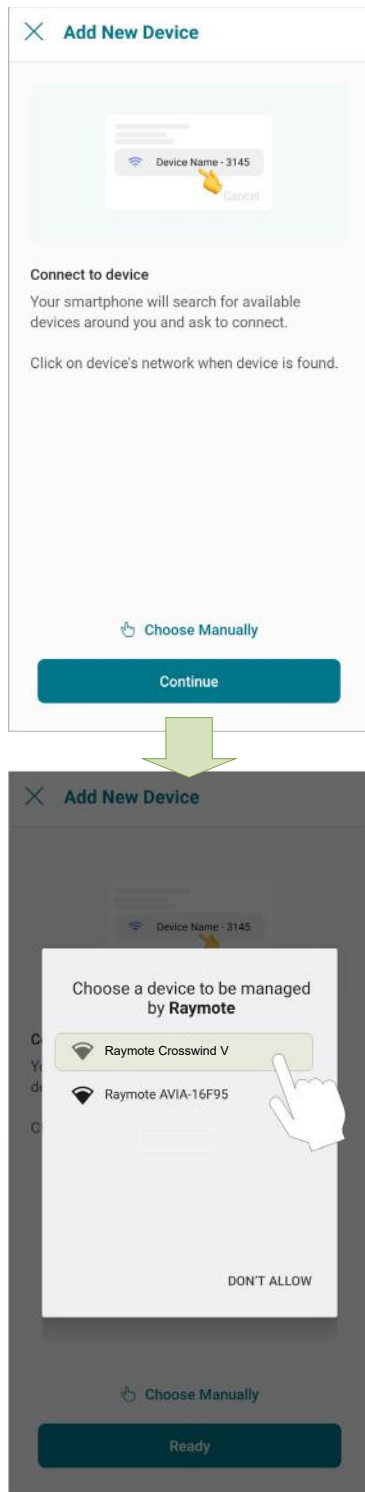

Figure 77. Connect with Android Smart Phone
3. **In Android:** Depending on your configuration, one or more devices will appear on the app. Select the HOTSPOT identifier that matches the unit's display as shown in Figure 77.